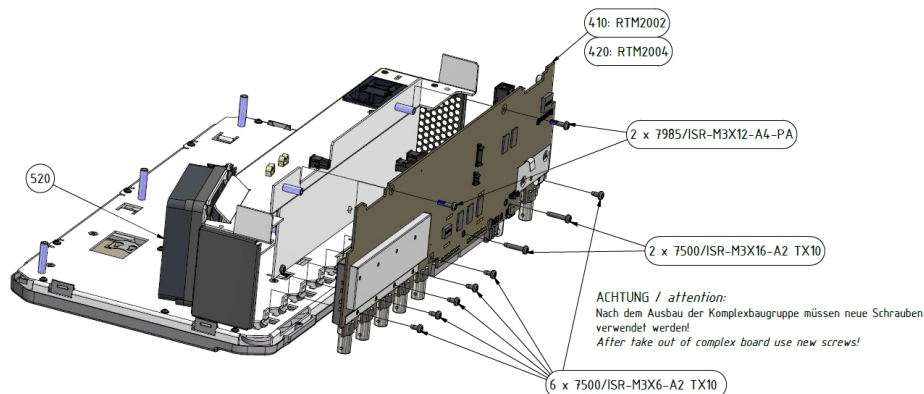

Figure 4-4: Exploded assembly drawing: installation of the complexboard
3. Fasten all screws. See Figure 4-4
3. Replace the six M3 x 6 (3588.3240.00) and the two M3 x 12 (1148.2881.00) screws. See Figure 4-4.